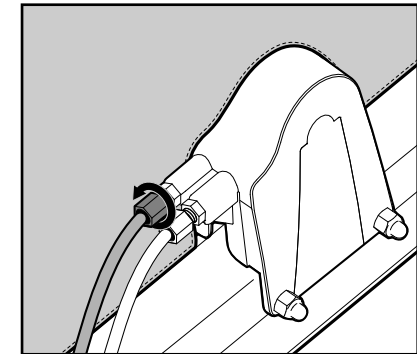

Figure 36
- c. Adjust the cable by rotating the corresponding barrel adjuster counterclockwise to tighten the cable (Fig. 36). Rotate the left barrel adjuster for the left-side brake and the right barrel adjuster for the right-side brake.